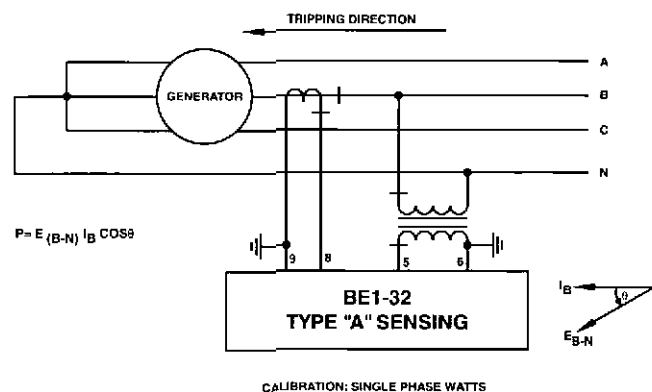

Figure 7 - Single Phase, Type A Sensing
**Type A Sensing:** Single-Phase (Figure 7). The type A sensing configuration monitors line-to-neutral voltage and a single phase current of a three-phase, four-wire circuit and calculates the power flowing in the tripping direction. Relays with this sensing type are calibrated in single-phase watts.